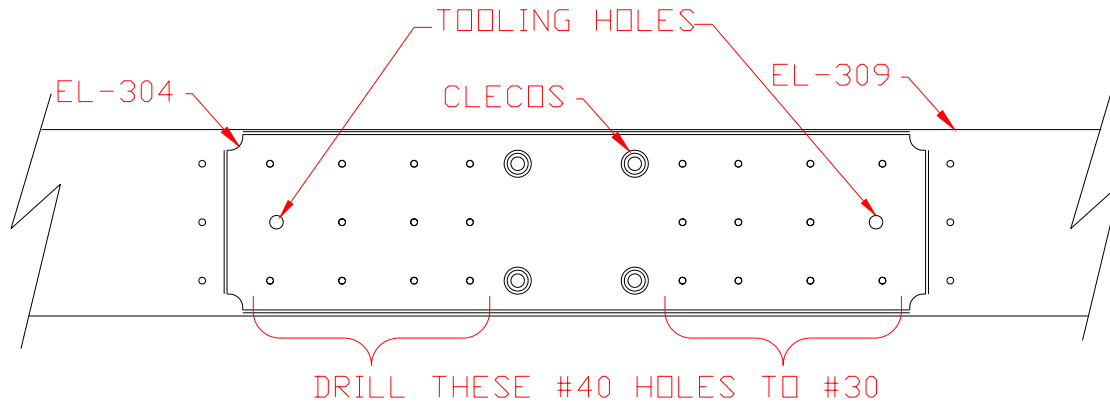

Figure 3.1.1
- 2) Using the four 3/16" holes, cleco the Elevator Center Doubler (EL-304) to the center of the Elevator Spar (EL-309). Drill all #40 holes into the doubler that are within the area of EL-304, using EL-309 as a guide. Drill these #40 holes to #30. Figure 3.1.1.